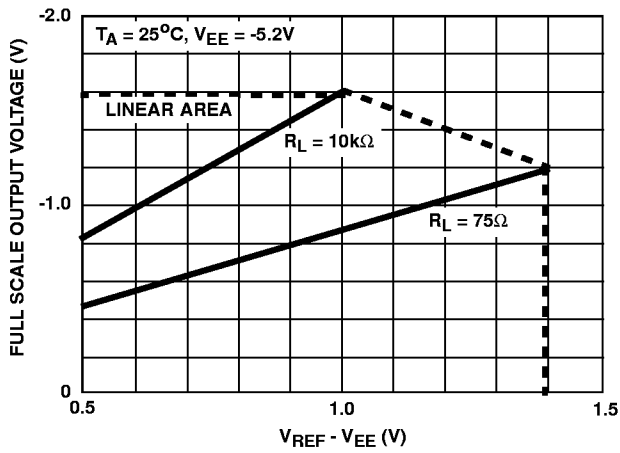

FIGURE 2. $V_{O(FS)}$ RATIO vs $(V_{REF} - V_{EE})$
The full scale output voltage is set by the Voltage Reference pin (27). The output voltage performance will vary as shown in Figure 2.